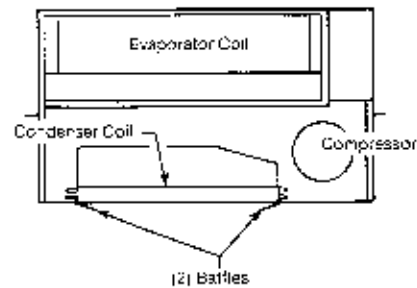

Figure 6. Top View
NOTE: Do not remove baffles from the chassis condenser coil when a ten inch wall box is installed. These baffles prevent air recirculation of the discharge air (see Figure 6).
6. Remove the baffles from the chassis condenser coil when the depth of the wall sleeve being installed is greater than ten inches. Wall sleeves with depths greater than ten inches have factory installed baffles. NOTE: Do not remove baffles from the chassis condenser coil when a ten inch depth wall sleeve is installed. These baffles prevent air recirculation of the discharge air (see Figure 6).